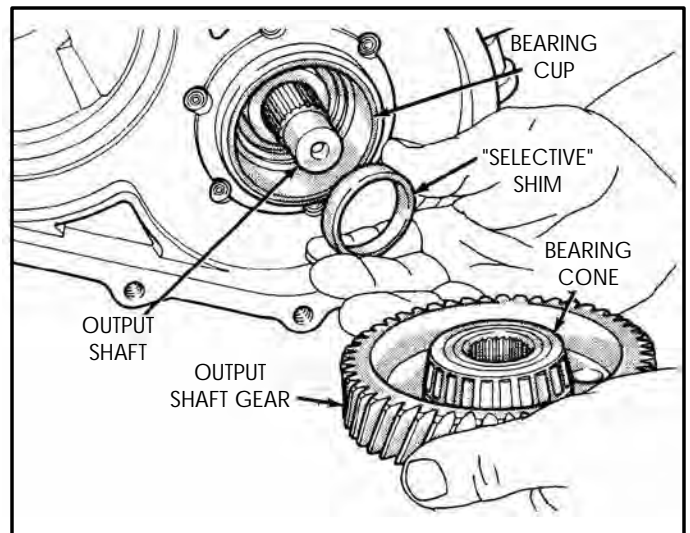

Figure 134
18. Remove the output shaft gear and the *selective* shim from output shaft (See Figure 134).